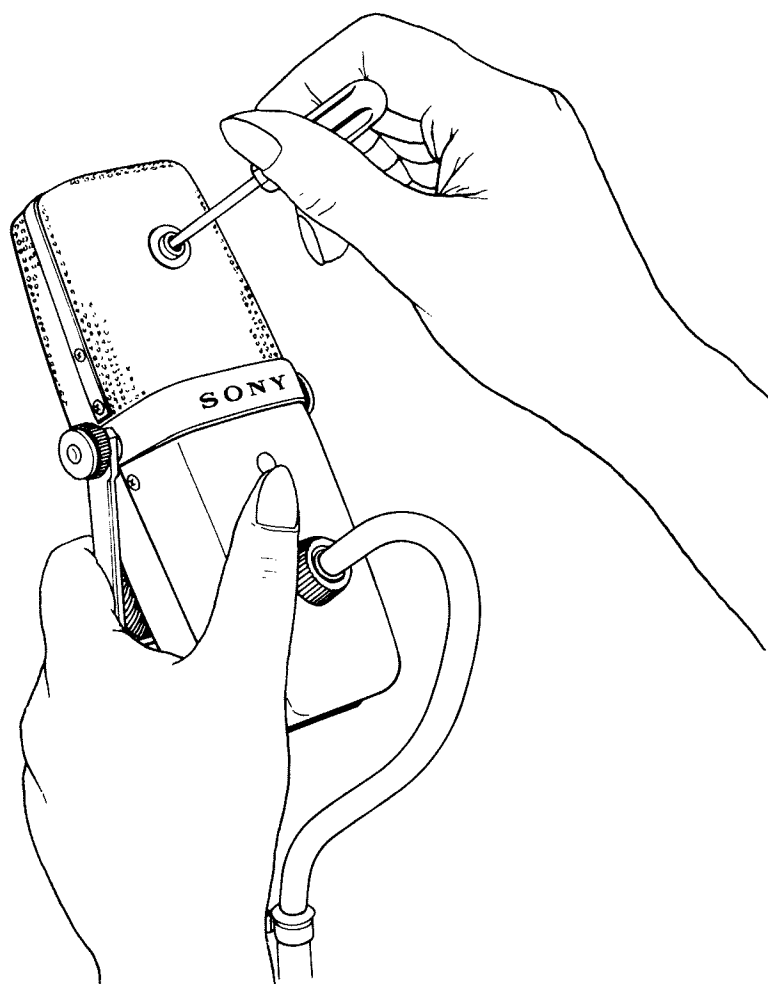

Fig. 4 Turning Directivity Control Switch
6.3 Directional Pattern (See Figure 4).